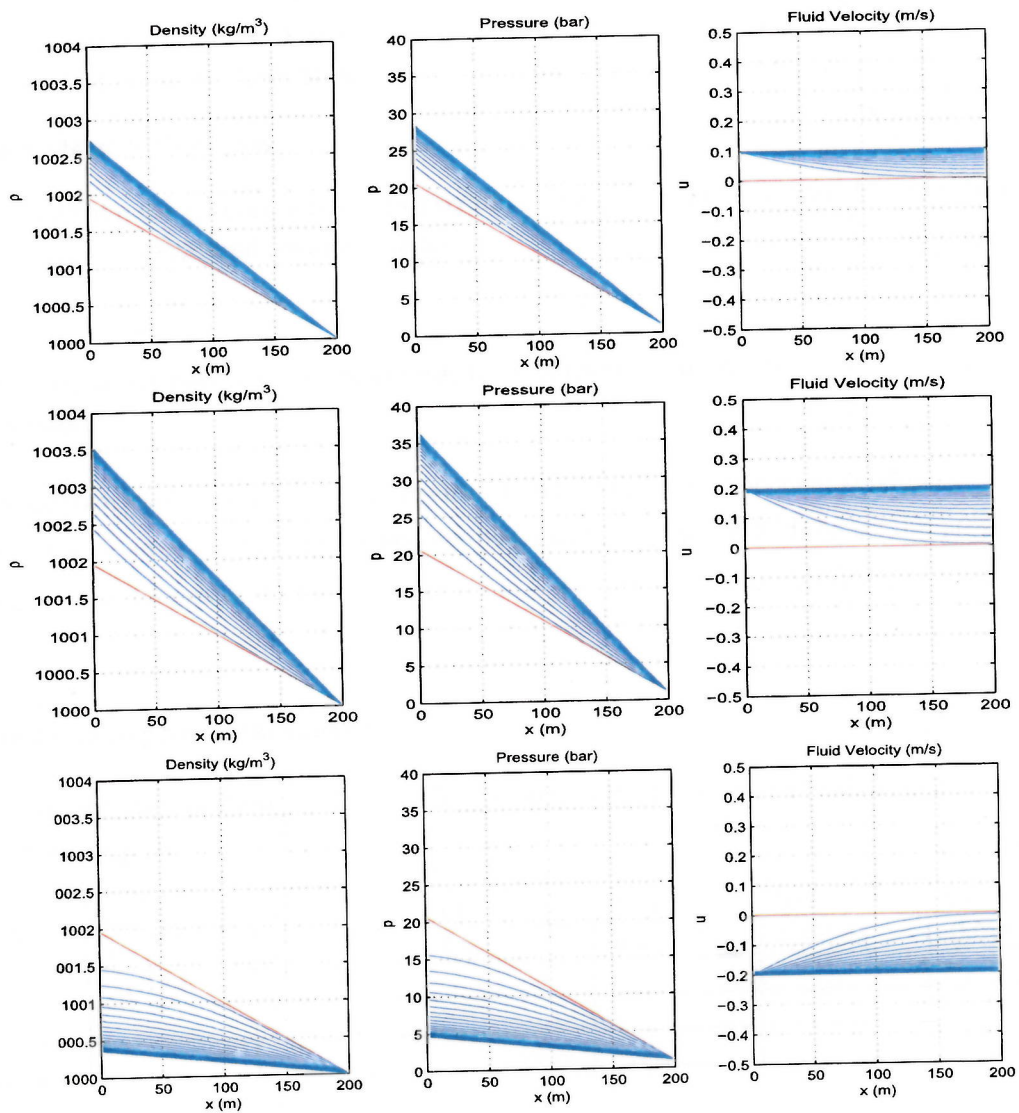

FIGURE 1. Curves show change in profiles from initial state towards stationary state.
- (c) Consider Fig. 1 where we have specified a liquid fluid rate at left end ( $x = 0$ ). The right end (at  $x = L$ ) is open with atmospheric pressure  $p^* = 1$  bar. Focus on pressure  $P$  and fluid velocity  $u$  along the wellbore.